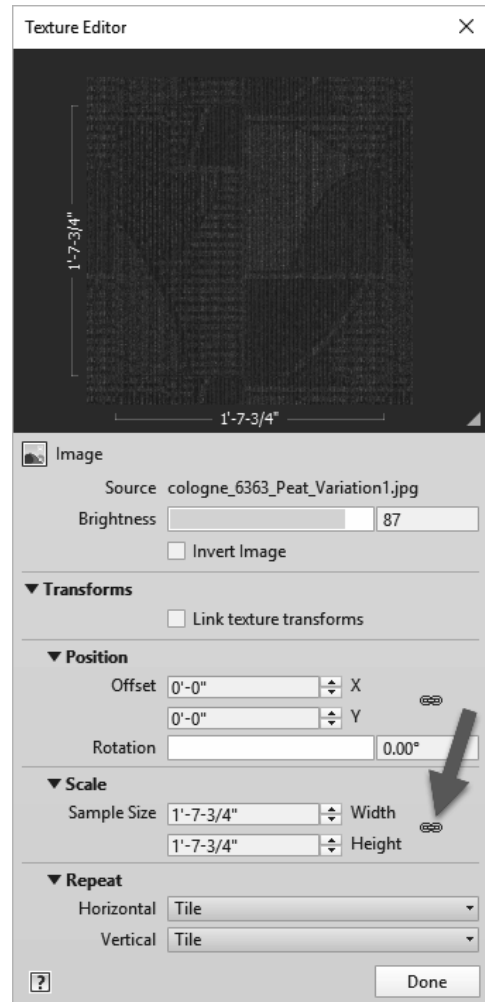

FIGURE 4-3.11 Texture Editor
You are now in the *Texture Browser* dialog (Figure 4-3.11). Here you may adjust several settings related to the raster image.
23. Click the **chain icon** pointed out in Figure 4-3.11.